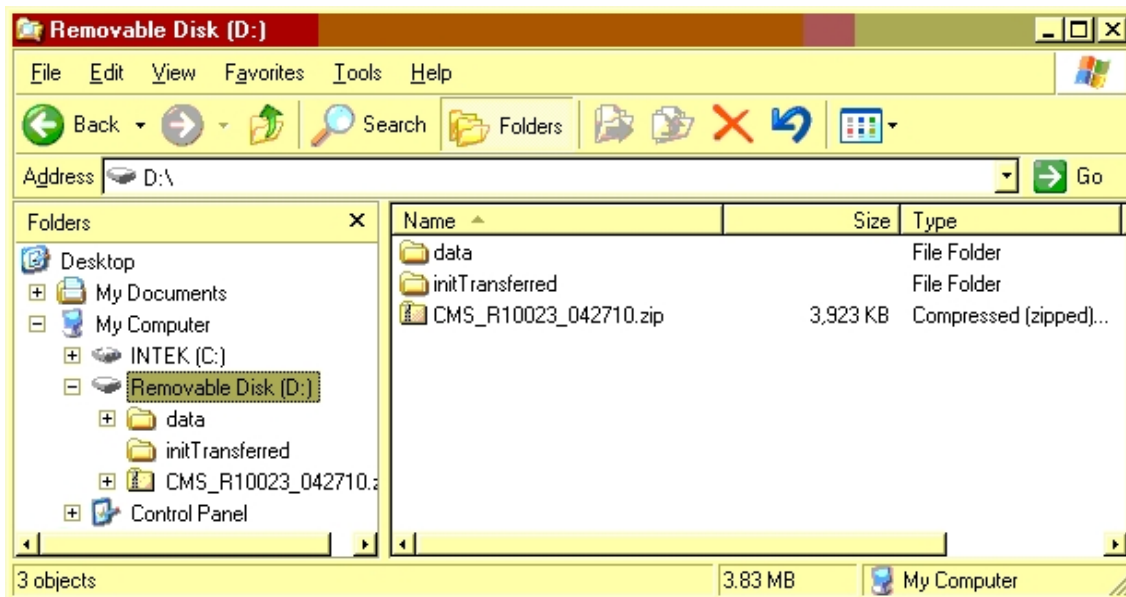

Figure 13: D-drive explorer view of zip file
- The file saved to the USB stick is automatically named based on the date of the download. The above example is shown in Figure 13.